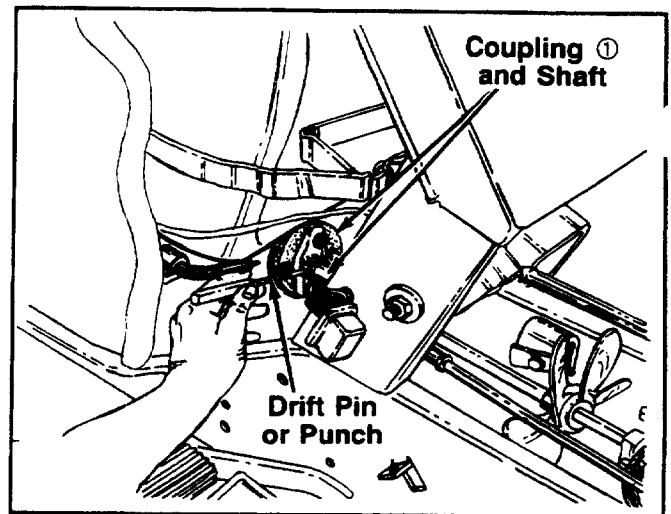

FIGURE 5.
4. Remove the front roll pin from shaft through coupling ①. See figure 5. The use of a drift pin or punch will be required. Discard roll pin and fan mounting hardware.